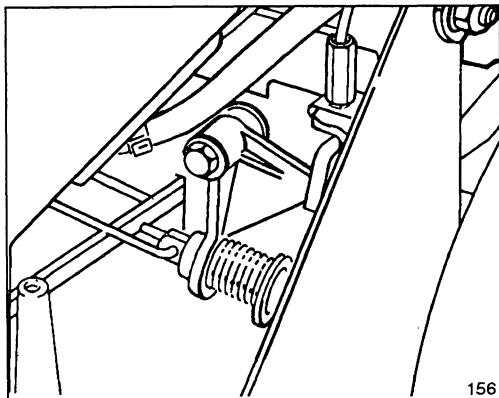

Figure 27
4. Remove any debris that may have accumulated in area behind panel (Fig. 27).
5. Reinstall vertical panel. Secure panel screen to mower deck with (2) 1/2" self tapping screws.